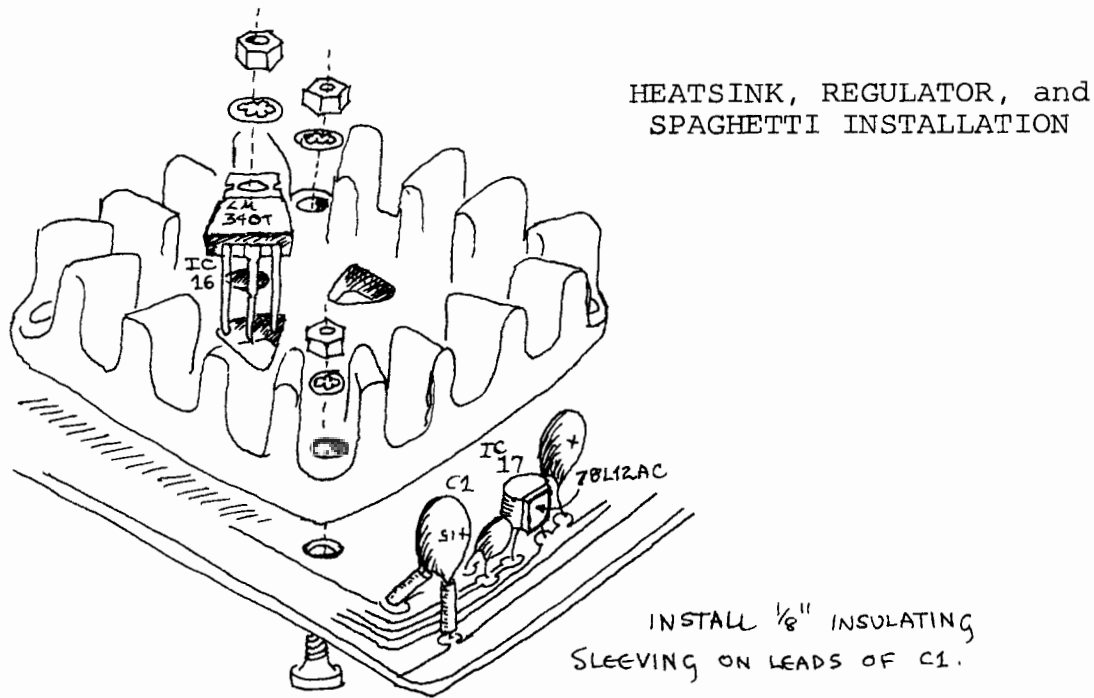

Figure 2-2
Refer to Figure 2-2 and component location diagram (Section V). Position the large, black heat sink (flat side to the board) over the square foil area on the lower left corner. Orient the sink so that the triangle of holes is under one of the triangular cut-outs in the sink. Using 6-32 screws, nuts, and lockwashers, attach the heat sink to the board, inserting the screws from the back side of the board.
Refer to Figure 2-2 and the component location diagram (Section V). Position regulator IC 16 (LM340T) as shown and observe how the leads must be bent to fit the holes. Note that the center lead (3) must be bent downwards at a point approximately 0.2 inches further from the body than the other leads. Bend the leads so that no